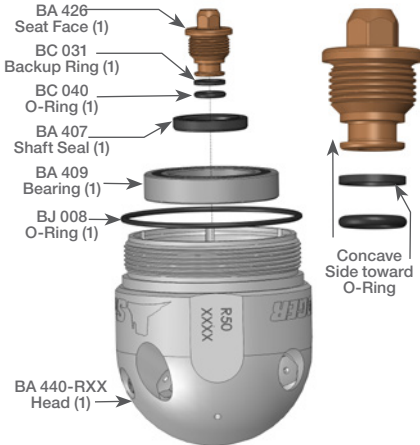

Figure 7: For Steps 1-7
3. Press Shaft Seal (BA 407) into Head in orientation shown in Figure 7. **Grease inner lip.**
6. Install the high pressure seal stack into the shaft. Start with the Spring (BA 424), followed by the HP Seal Assy (BA 412-O), then the Seal Holder (BA 420). **See Figure 7 for orientation of groove in Seal Holder and direction of HP Seal Assy.** Apply grease to each component when installing to hold them in the shaft.
7. Install Carbide Seat (BC 511) into Seal Holder. **Note orientation of chamfer in Figure 7.** Use grease to hold the Carbide Seat in place.